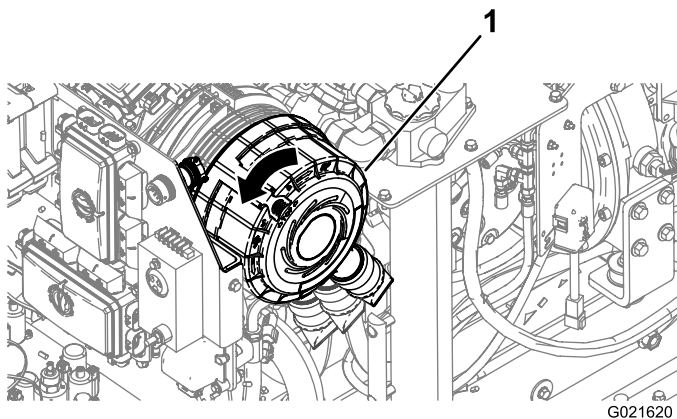

Figure 117
6. Rotate the filter cover counterclockwise so that the dust cap is at the 4 o'clock position (Figure 117).
4. Rotate the air cleaner filter cover clockwise, so that the dust cap is at the 4 o'clock position (Figure 117).